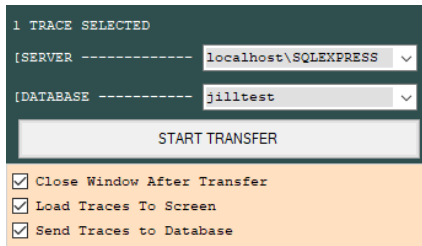

Figure 3.15 The Transfer To dialog box for copying traces to a database.
6. Make sure the box next to *Send Traces to Database* is checked (Figure 3.15).